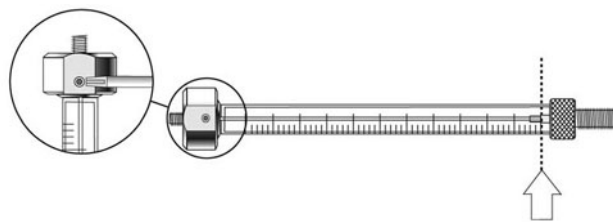

Fig. 63: Installing the plunger holder on the syringe
Remove the plunger holder from the syringe by loosening the hexagon screw (→ Fig. 63, page 127) on the holder (hexagon wrench size 6).
6. Prepare the (replacement) syringe by installing the plunger holder (→ Fig. 63, page 127):